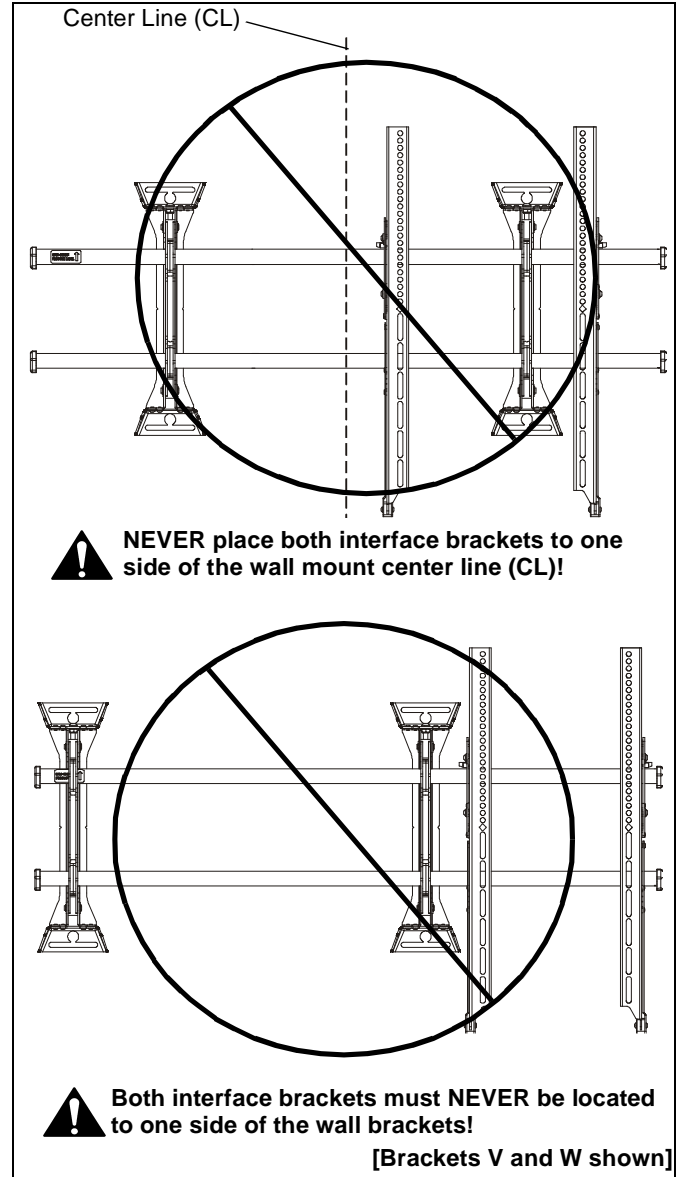

Figure 10
**NOTE:** NEVER place both interface brackets (V and W or X and Y) to one side of the wall mount center line! (See Figure 10)
**NOTE:** Do NOT allow both interface brackets (V and W or X and Y) to be located on same side of wall bracket. (See Figure 10)